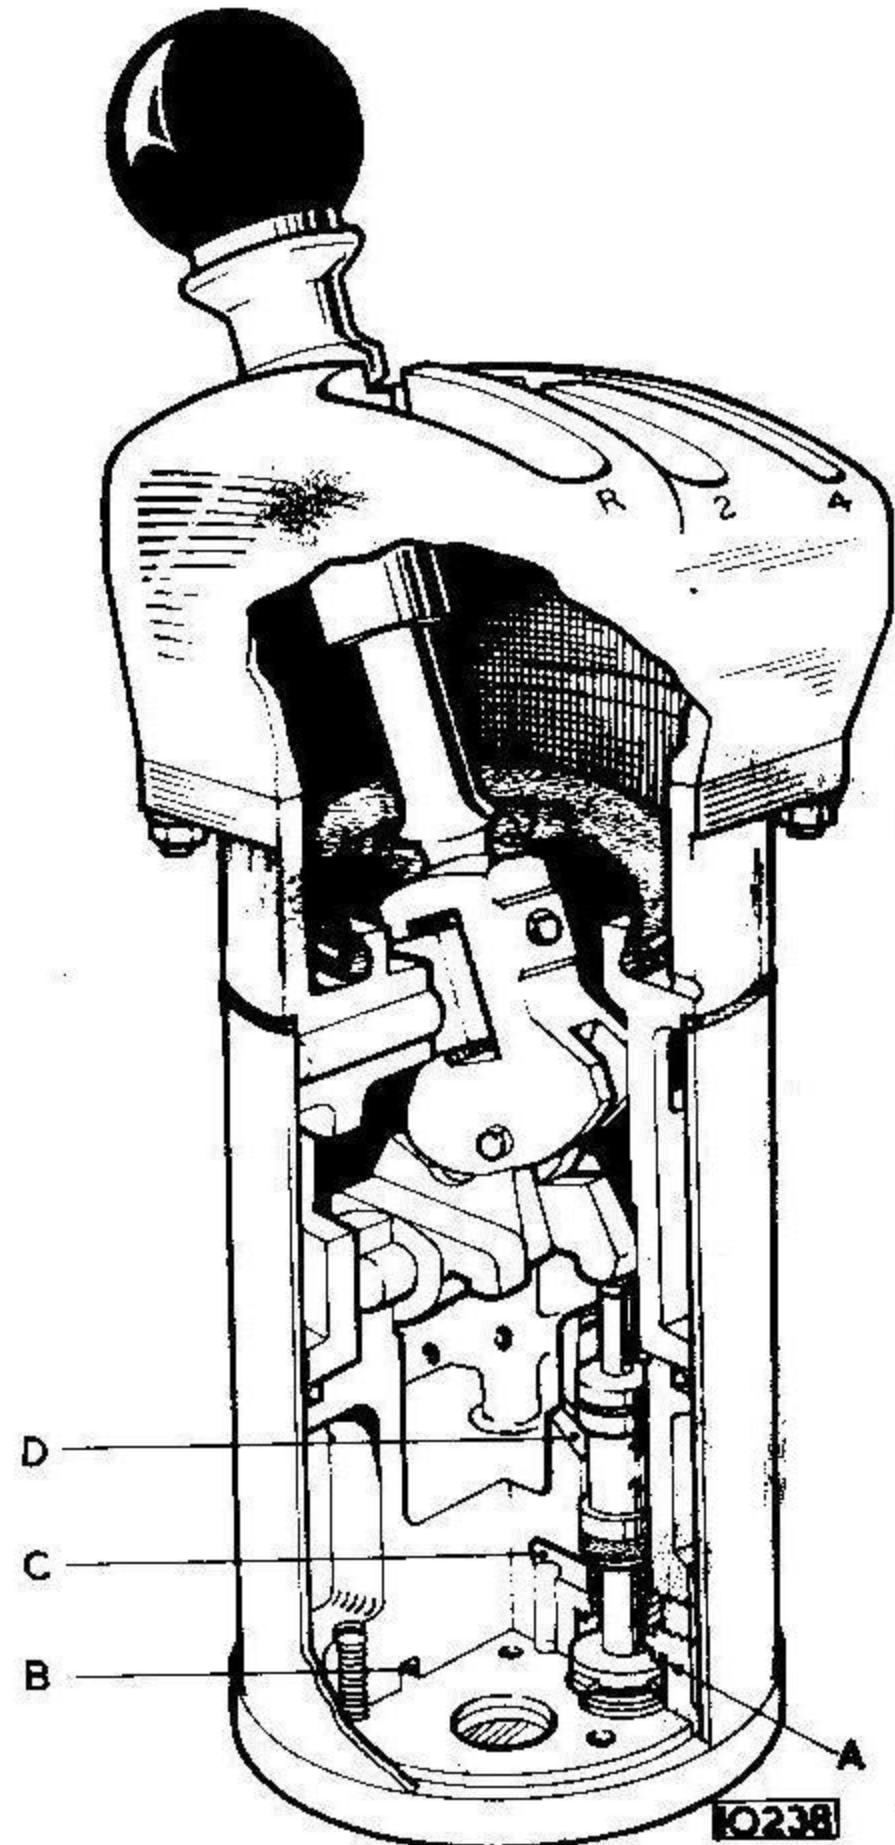
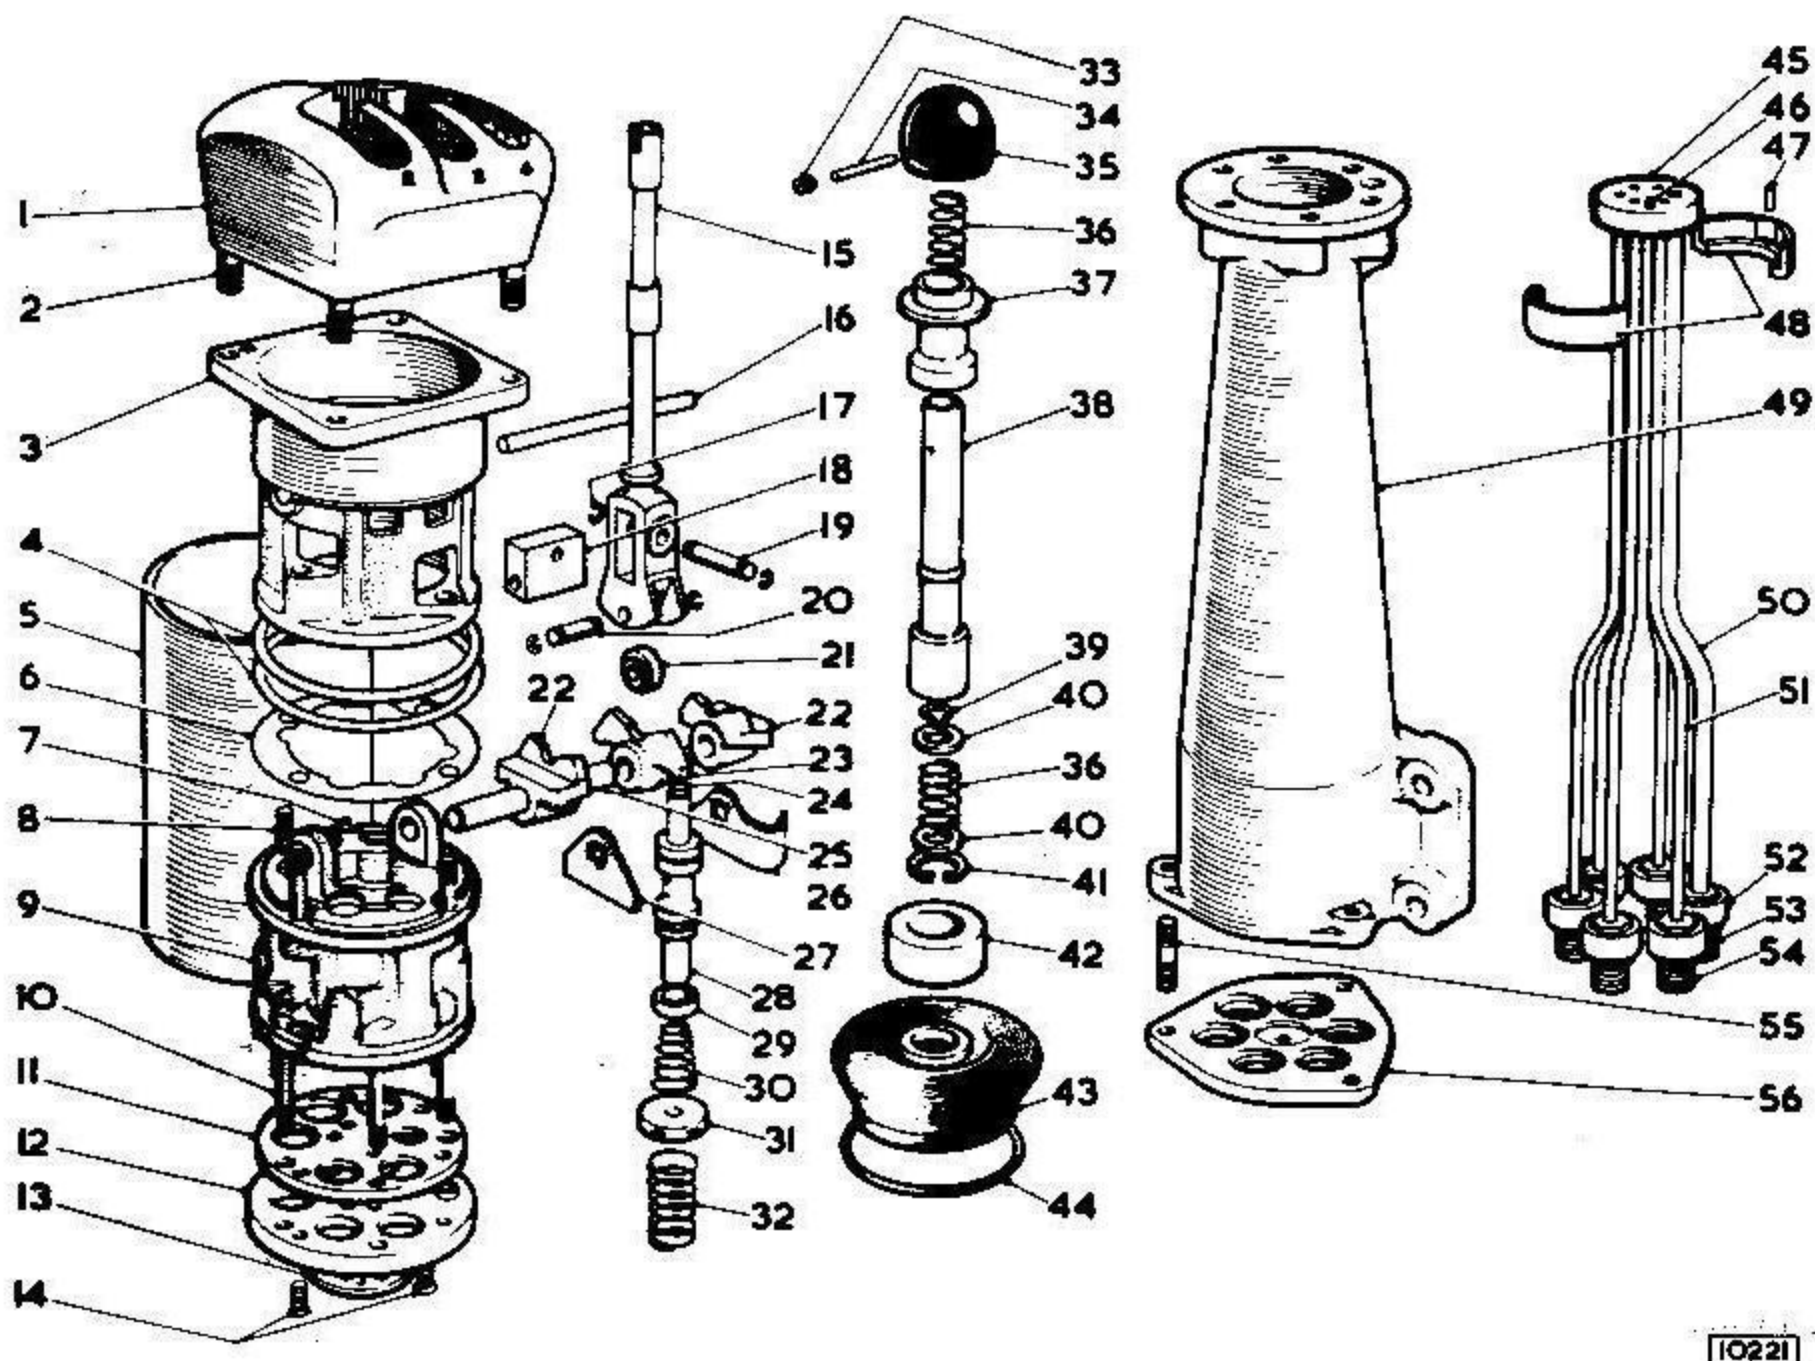

Fig. 33 The floor mounted gear change control unit
Fig. 34 Exploded view of the gear change control unit
When the gear lever assembly is moved in the gate (1) Fig. 34, between the second and third gears, the lever rotates the pivot block (18) about the pin (16), the roller (21) then rides over the cam face of the central rocker (23) and depresses the appropriate piston (28).
As the piston is pushed downwards, its lower face abuts on the common inlet and exhaust valve disc (31) thus sealing off the exhaust passage through the centre of the piston, further downward movement forces the disc off the inlet seat (A) Fig.33. The air supply, which is connected to the underside of all the valves via the gallery (B), can pass to the appropriate delivery port (C) which is in turn connected via the pedestal block to the pipe feeding the appropriate control cylinder in the gearbox.
When the gear lever is returned to the neutral position, the spring (30) Fig. 34 will push the piston upwards until it is balanced by the spring under the opposite piston at the same time, the lower spring (32) will force the valve disc on to its seat, thus the air supply is cut off and the pressure in the operating cylinder can pass from the passage (C) to the central in the piston, from the passage (C) Fig. 33 to the central port in the piston and thence by the holes in the piston stem and port (D) to the control cavity in the lower valve body, which is connected to the exhaust.
If the control lever is moved across the gate in the neutral position, the lever rotates about the pin (19) Fig. 34 and the roller (21) will be moved from one rocker to the
cam is apparent, thus providing a check to further movement, if the lever is unduly free in any position a collapsed spring (30) Fig. 34 is indicated. If difficulty is experienced in moving the lever into a gear position this may indicate a faulty piston (28) or packing (29).